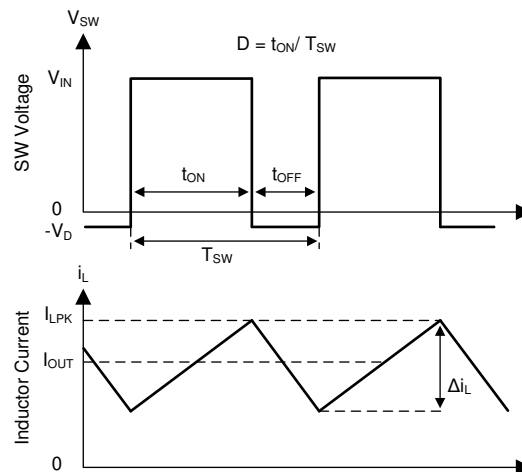

Figure 10. SW Node and Inductor Current Waveforms in Continuous Conduction Mode
The following operation description of the LM76002-Q1/LM76003-Q1 refers to the Functional Block Diagram and to the waveforms in Figure 10. The LM76002-Q1/LM76003-Q1 supplies a regulated output voltage by turning on the internal high side (HS) and low side (LS) NMOS switches with varying duty cycle (D). During high-side switch on-time t_{ON} , the SW pin voltage V_{SW} swings up to approximately V_{IN} , and the inductor current i_L increase with linear slope. The HS switch is off by the control logic. During the HS switch off-time, t_{OFF} , the LS switch is turned on. Inductor current discharges through the LS switch, which forces the V_{SW} to swing below ground by the voltage drop across the LS switch. The regulator loop adjusts the duty cycle to maintain a constant output voltage. The control parameter of buck converter is defined as duty cycle $D = t_{ON} / t_{SW}$. In an ideal buck converter, where losses are ignored, D is proportional to the output voltage and inversely proportional to the input voltage: $D = V_{OUT} / V_{IN}$.